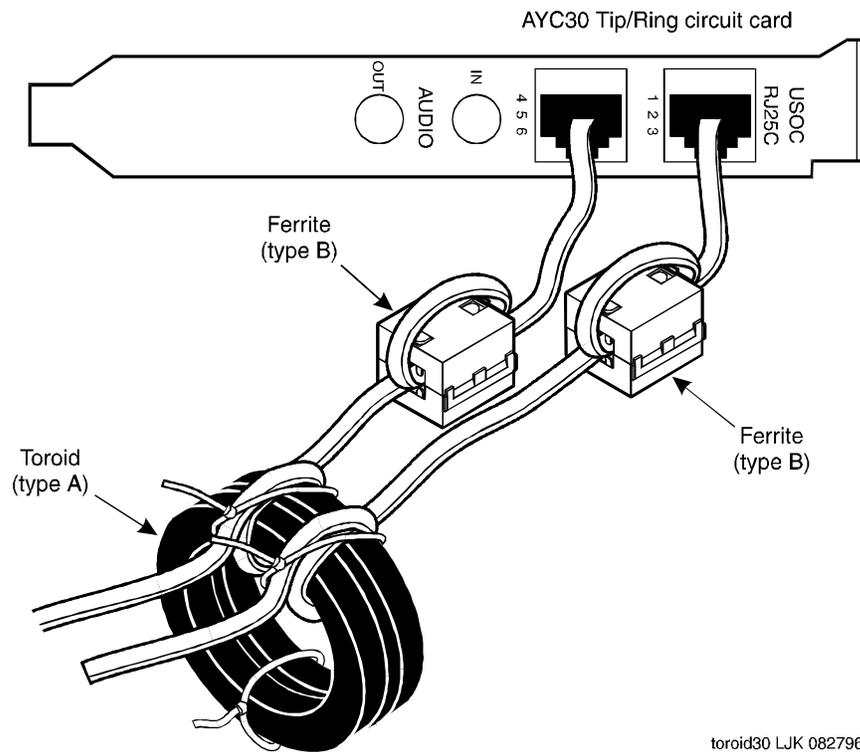

Figure 3-8. Ferrite and Toroid Placement for the AYC30 Tip/Ring Circuit Card
- Connections to the AYC30 tip/ring circuit cards require 1 ferrite (Type B) on each modular cable, and each cable must be wrapped 1 turn through a pair of toroids (Type A). A maximum of 11 modular cables or 33 tip/ring channels may be wrapped through the same pair of toroids. Because toroids are fragile, use 1 small cable tie on the loose side of the toroid to prevent toroid damage. See Figure 3-8. The ferrite(s) and toroid(s) should be located close to the system.